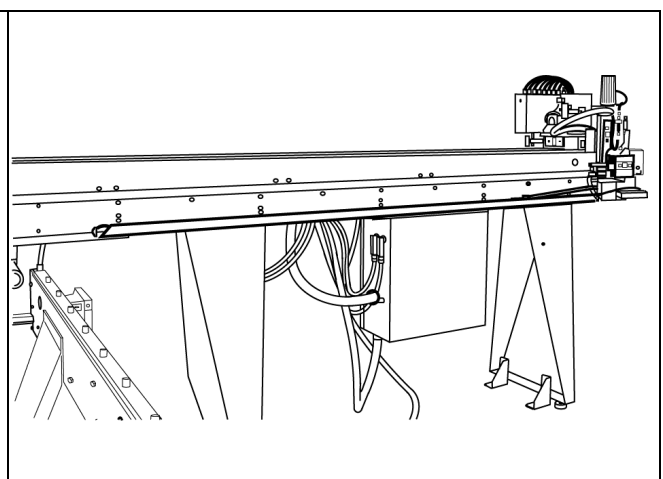

Fig. 03-02
2. **Numerically controlled bar feeder 'PUSH PLUS 8000' (Fig. 03-02):** pusher complete with a gripper that grasps the bar and feeds it in, resting on a roller table, into the cutting area. On the Push rollers there is a profile marker with 2 printer heads.